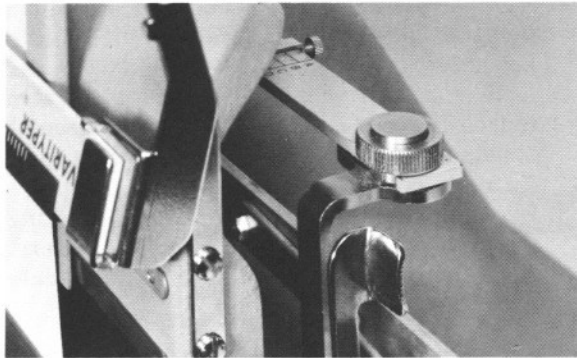

Figure 80
The tabulation scale can be removed from the machine to set tab stops properly. Remove the scale by slightly lifting right hand side of scale and slide away from operator, then remove by pulling to the right to disengage the left holder. Reverse the procedure for reinstalling the tab scale, making certain that it snaps into position. The **tabulation scale adjustment knob** (Figure 80) is located on the right hand tab scale bracket. This knob must be "seated" in 1 of the 2 detent positions.
- a. Tab to first tab stop (100) and, at this point "100", align horizontal plotting scale with the gunsight.
- (1) Slightly moving individual tab stops; or,
- (2) Turning the **tab scale adjustment knob** (Figure 80) until it snaps into the other detent position. This adjusts all tab stops simultaneously.